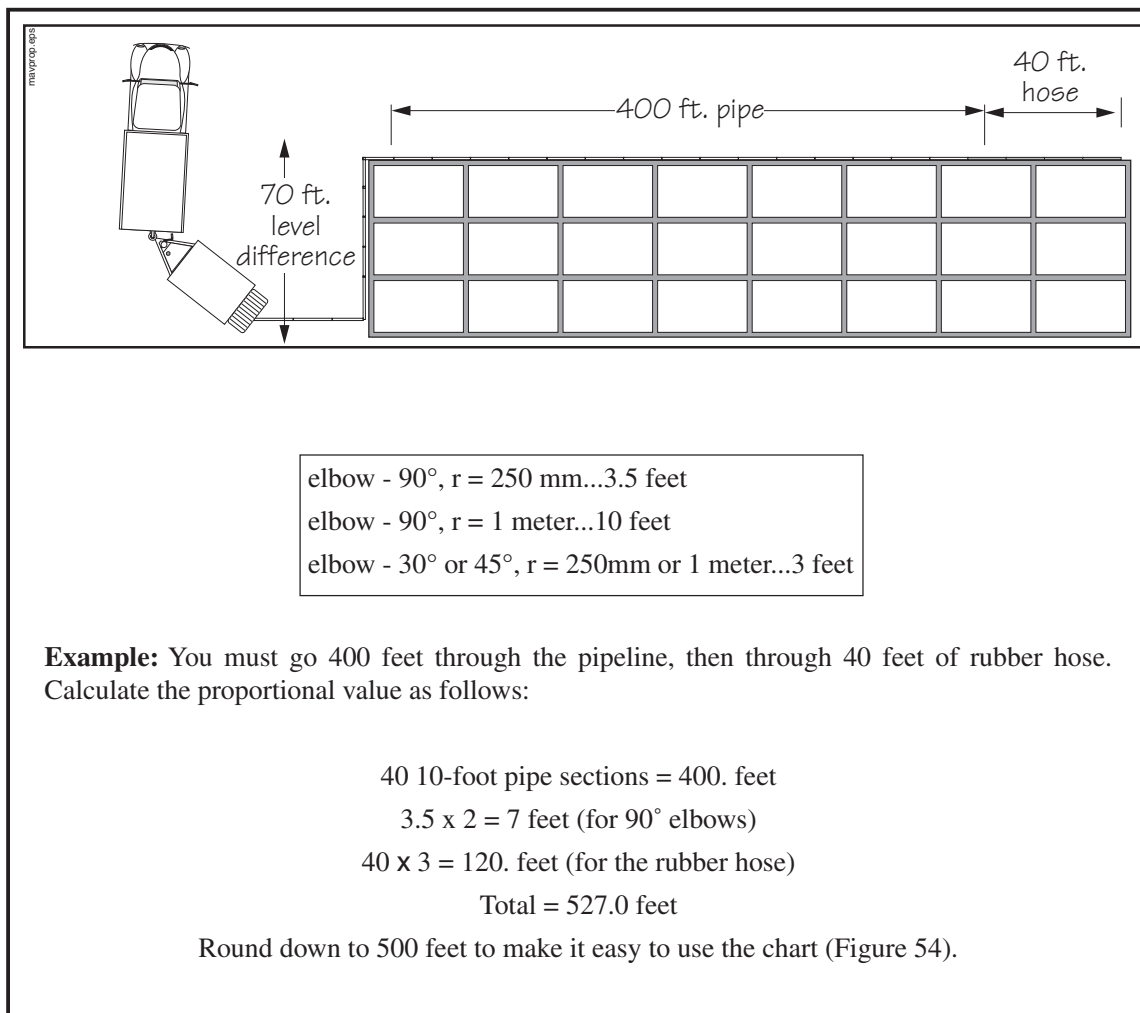

Figure 53
- Figure all horizontal and vertical distances equally. The increased pressure required to push concrete vertically is accounted for by adding pressure, not distance. An example pipeline is shown below (Figure 53).